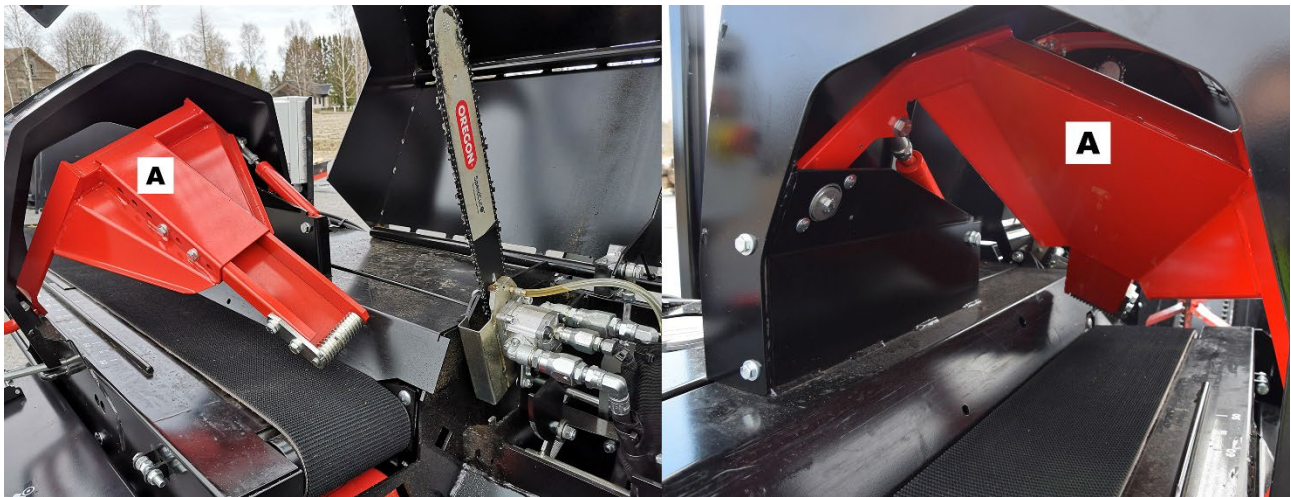

Figure 21
- ❑ The splitting wedge can also be adjusted hydraulically by means of the lever A on the crosscut deck, Fig. 21.